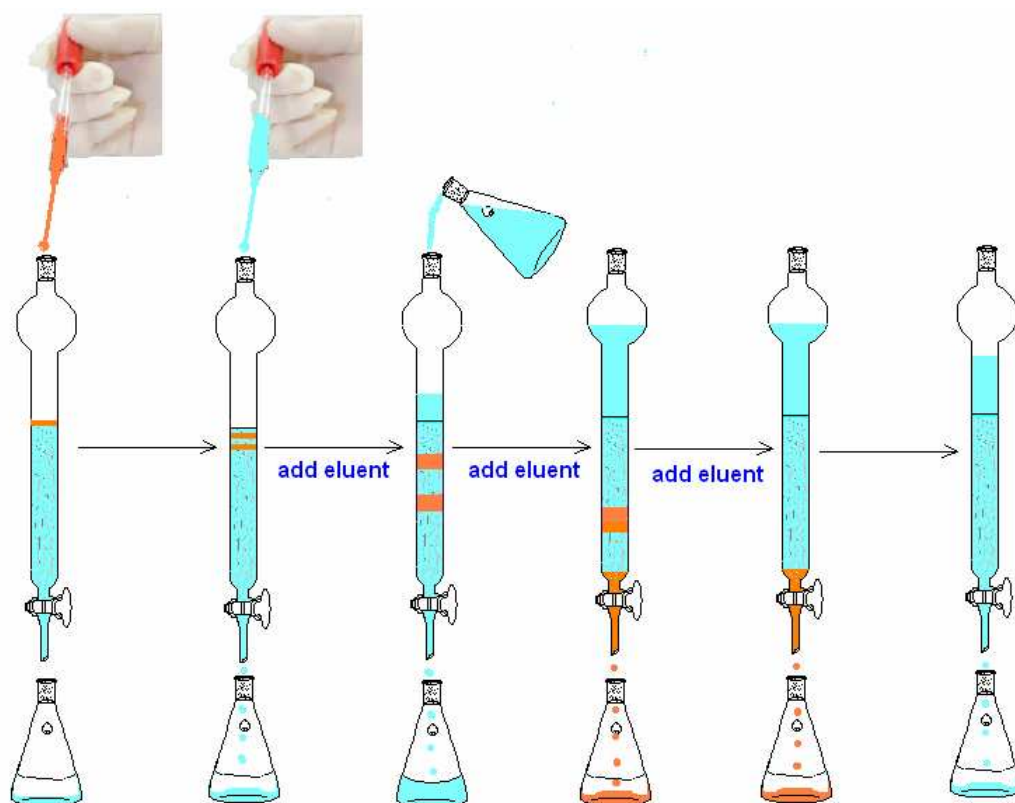

Figure 3.3. Flash Column Chromatography
1. Remove the stopper, open the valve, and bring the eluent level at top of column to the upper level of silica gel. (Fig. 3.3).